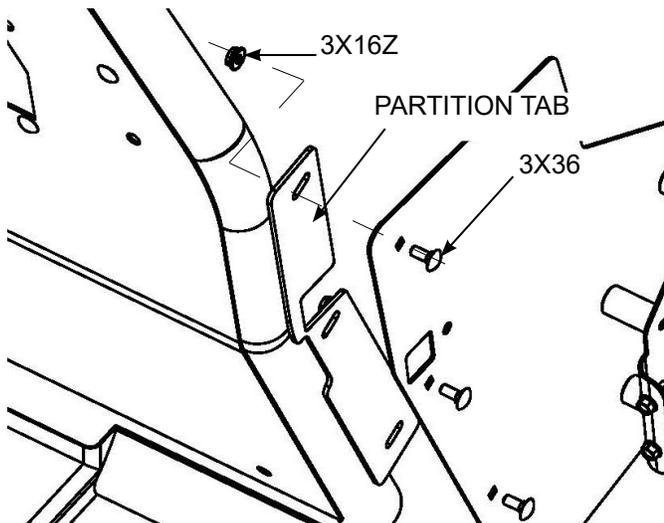

Fig. 3
- A. At this point the partition can be installed in the vehicle. You'll need a second person. Carefully lift the partition through the vehicle. Align the partition tab with the (3) square holes in the mounting plate. Start the three (3X36) bolts and (3X16Z) whiz nuts on the partition tab to hold in place. (Fig. 3)